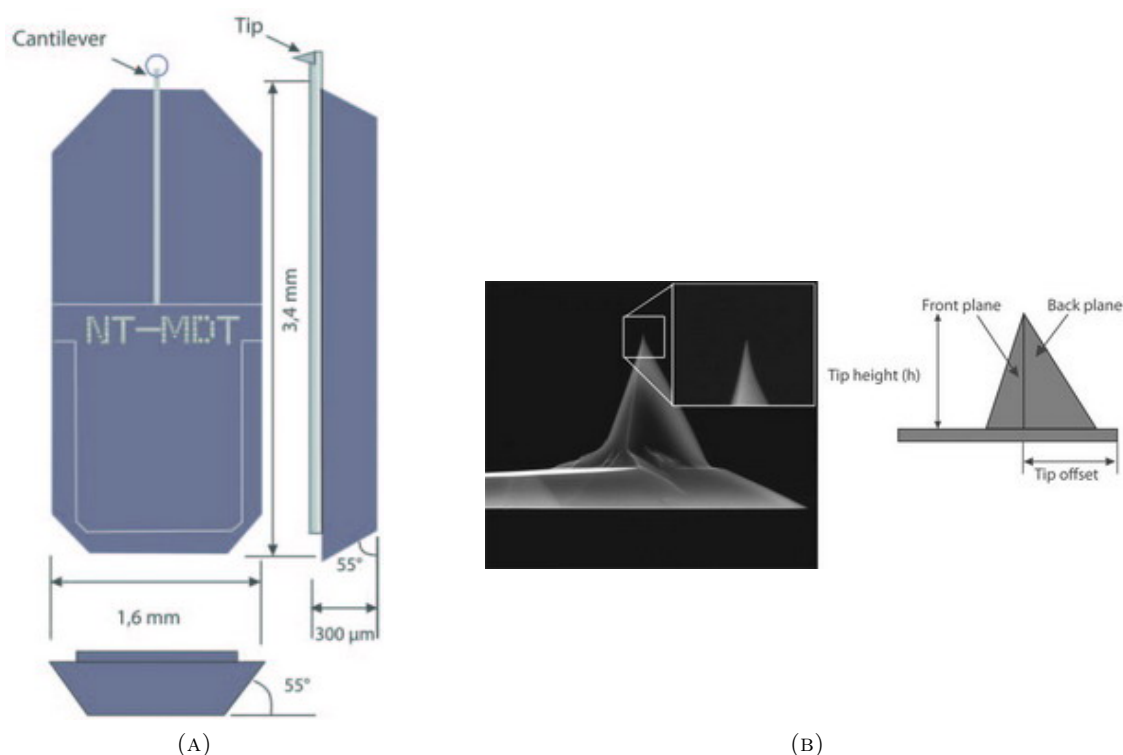

FIGURE 1. (A) Industry standard AFM chip that holds the cantilever and tip. (B) Expanded view of the tip. Images taken from NT-MDT website.
2.1.2. Tips. The tip cannot be seen, as it is well below the resolution of optical systems that use visible light wavelength (for example, our eyes). The tip sits on an optical cantilever that is also quit small, but can be seen if one has good eyes. A description of the geometry of the chips, cantilevers and tips used in our lab can be found here. Figure 1 shows the (industry standard) chip dimensions for the chips used in our lab. The small cantilever can be see at the top of the chip.